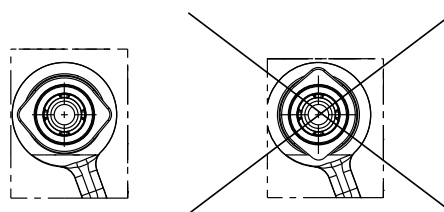

**Fig. 4** Fitting the O-ring on the stationary shaft seal part
1. Fit O-ring (pos. 102) on the stationary shaft seal part. See fig. 4. For correct lubricant, see section 3. *Tightening torques and lubricants*.